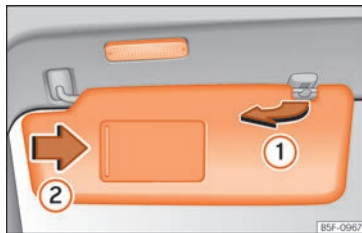

Fig. 90 Sun visor
- The sun visor can be pulled out of its mounting and turned towards the door >>> Fig. 90 ①.